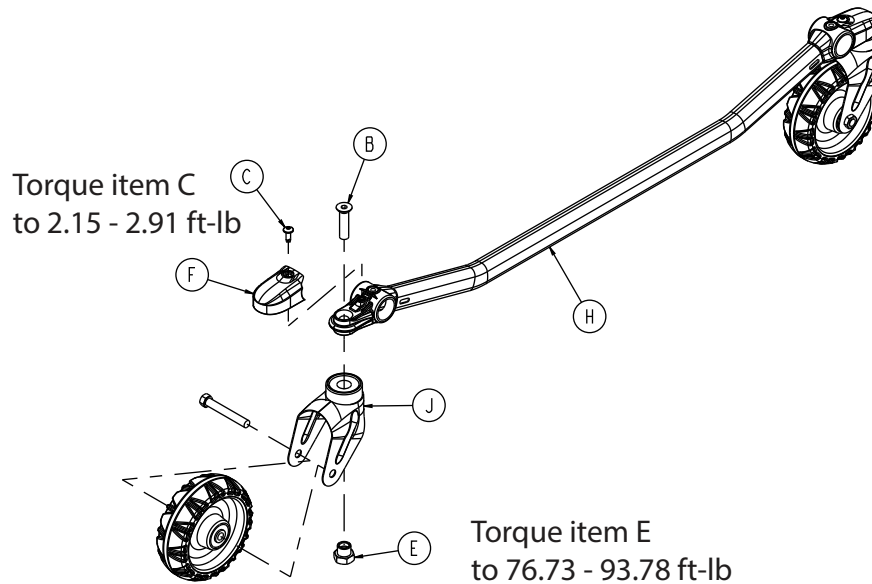

Figure 66 – Caster horn components (non-brake base tube)
5. Using a T30 Torx driver, remove the pan head machine screw (C) that secures the caster mount cover (F) to the base tube (Figure 66). Remove and save the caster mount cover. Save the screw.
6. Using a 1" combination wrench, remove the flat head/hex socket bolt (B) and caster nut (E) that secure the caster horn (J) to the base tube weldment (H) (Figure 66). Remove and discard the caster horn. Save the bolt and nut.